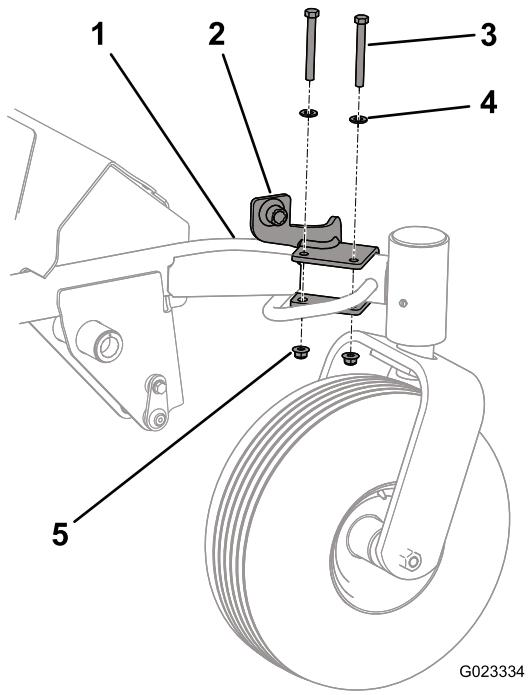

Figure 1
1. Secure the jack mount to the castor arm with 2 bolts (3/8 x 3-1/4 inch), flat washers .406 x .813 inch and flange nuts (3/8 inch). Position the components as shown in Figure 1. Make sure the jack mount is bolted to the straight section of the castor arm.